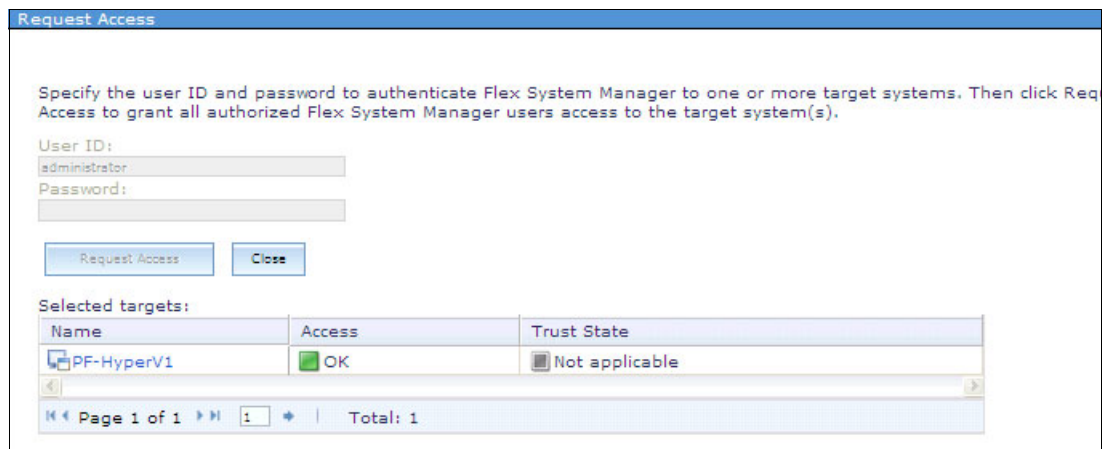

Figure 12-7 Hyper-V access is granted
2. When the job is complete, your access is OK as shown in Figure 12-7. You can install your Common Agent that you imported previously.